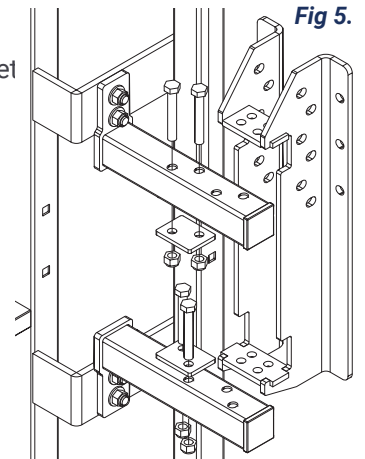

Fig 5.
2. Fix the channel onto the arms using 4no M12 x 80 bolts in conjunction with the drilled plates. Be sure to use the 2no holes nearest the crush (Fig 5).